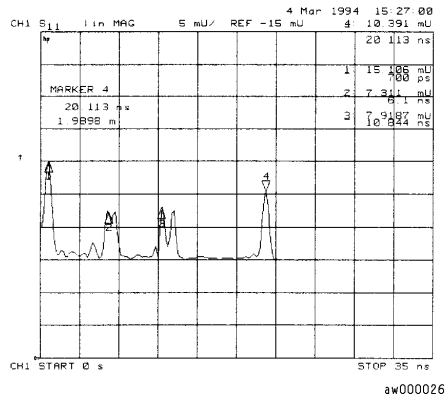

Figure 4-23. Device Response in the Time Domain
- 9 To position a marker at each reflection of interest, as shown in **Figure 4-23**, press: